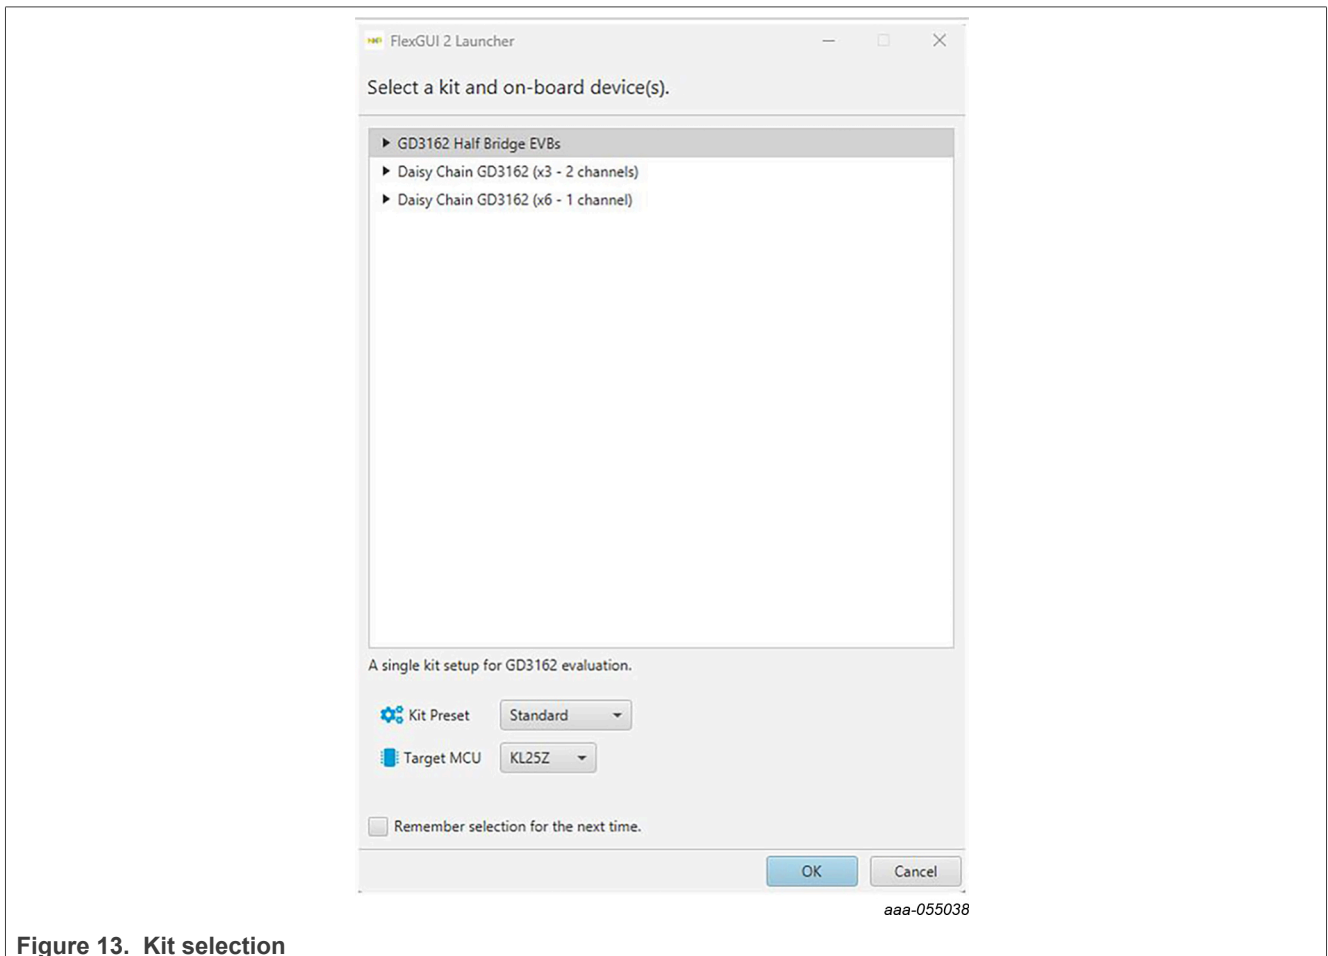
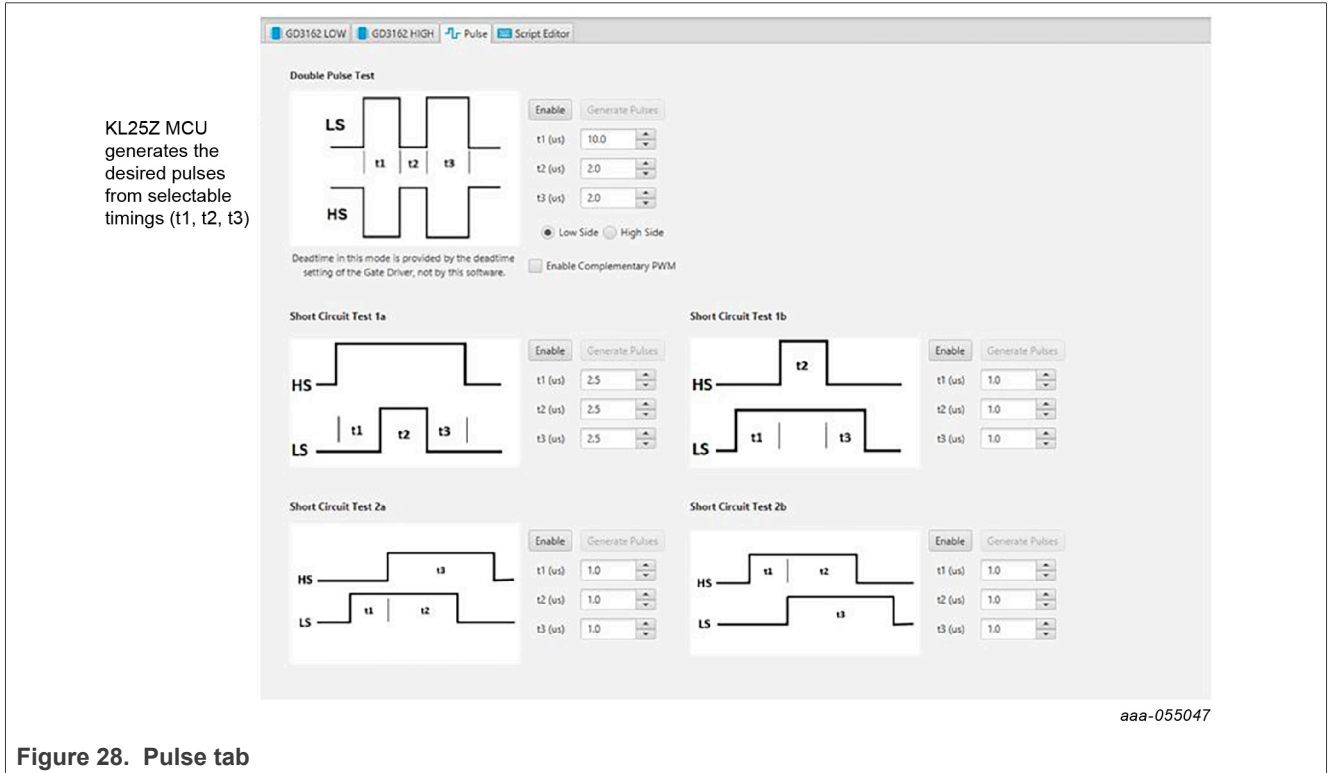

Figure 13. Kit selection
Figure 28. Pulse tab
A way to check quickly that the microcode is programmed and the board is functioning properly, is to plug the KL25Z into the computer, open FlexGUI 2 for GD3162, and verify that the software version at the bottom is 6.4 or later (see Figure 13).
SPI messages can be realized graphically or in hexadecimal format. CSB is selectable to address one or both GD3162 on the board via daisy chain. See Figure 13 to Figure 28 for FlexGUI 2 for GD3162 internal register read and write access.
- When you start the application, Figure 13 allows you to select the target application board, half-bridge EVB or three-phase inverter (x3 - 2 channel) or (x6 - 1 channel), kit preset (standard or daisy chain), target MCU